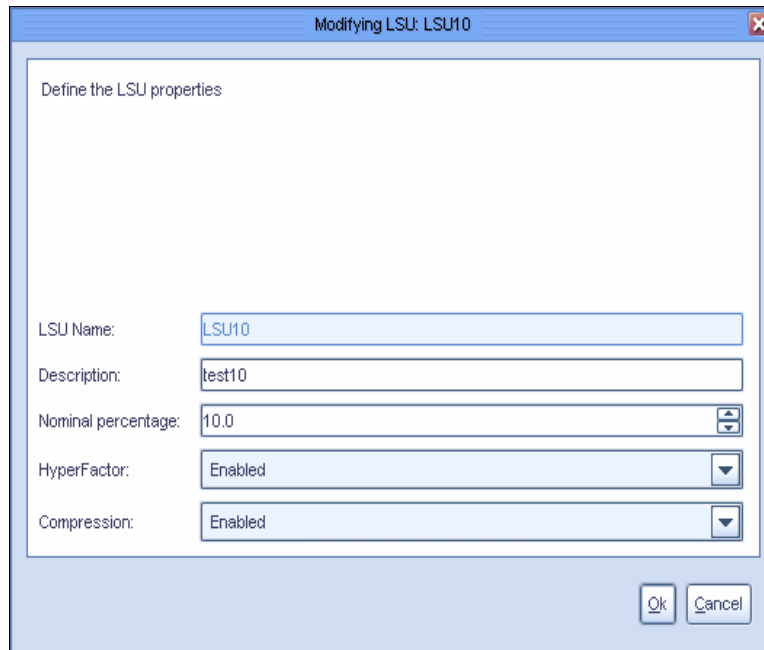

Figure 9-12 Logical Storage Unit Modify window
- Modify the data compression option by selecting either **On** or **Off** in the Compression field to enable or disable data compression (Figure 9-12).